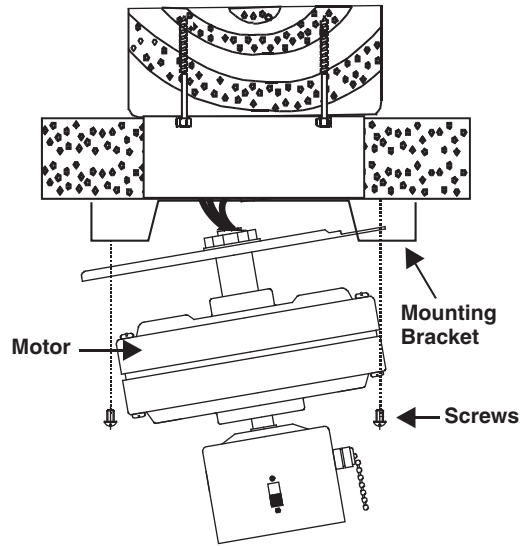

Figure 9
- 1. Swing the motor assembly up into position under the mounting bracket. Secure the bracket to the plate with the screws provided. (Fig. 9)